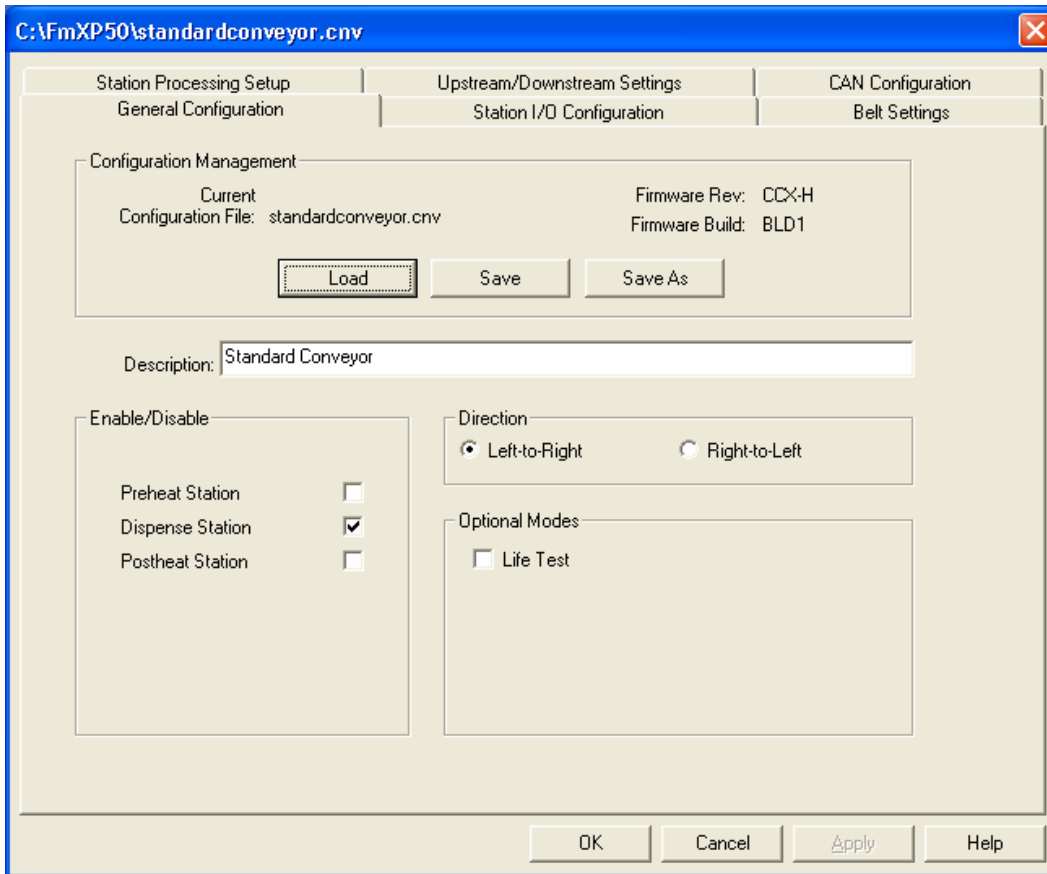

Figure 2-2 Conveyor Configuration Window
- ▶ The Conveyor Configuration Window (Figure 2-2) opens.